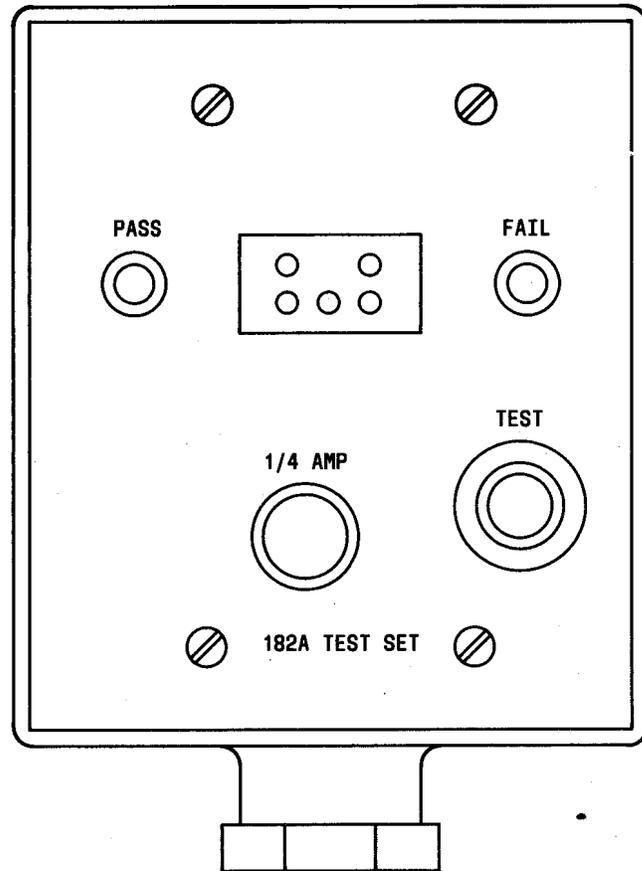

Fig. 4—182A Test Set
1.06 The 182A test set is also housed in a conduit box for wall mounting (Fig. 4). A block diagram of the 182A test set is shown in Figure 5.